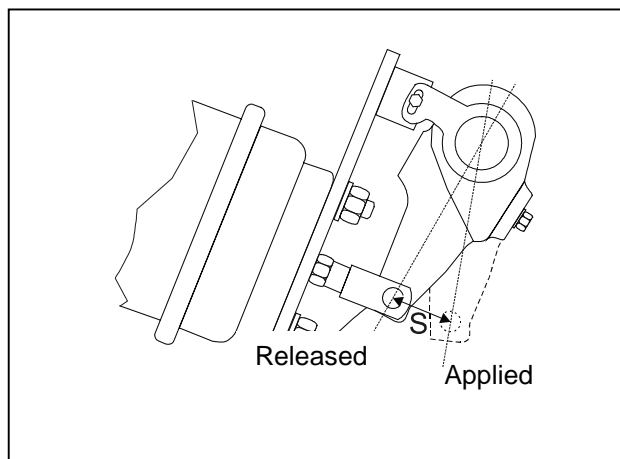

Figure 1: Brake chamber throw
- **To measure brake chamber throw (see Figure 1)**
- 1) With the parking brake OFF, turn the slack adjuster's hexagon head, rotating the camshaft, until travel 'S' (see Figure 1), measured under full operating pressure equals 2.3 inches.